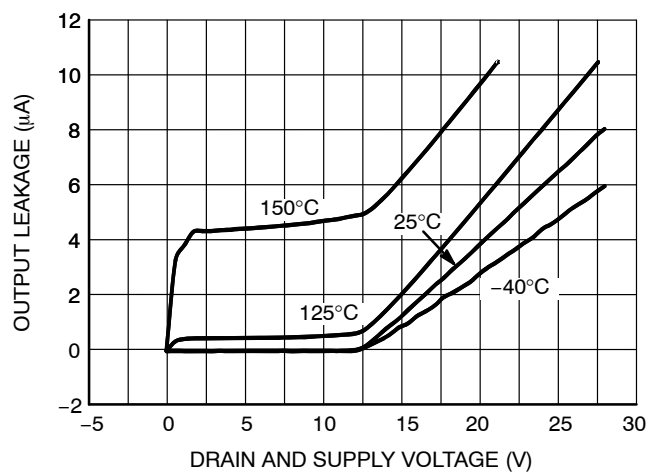

Figure 15. Standby Output Leakage vs. VS
9. Refer to Figure 15 for output leakage current behavior.